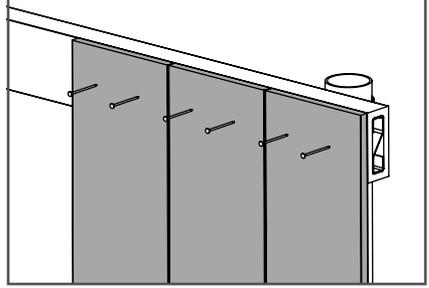

Fig. 29
3. For the final board in the fence run, measure the remaining opening before mounting board. As shown in Fig. 29.